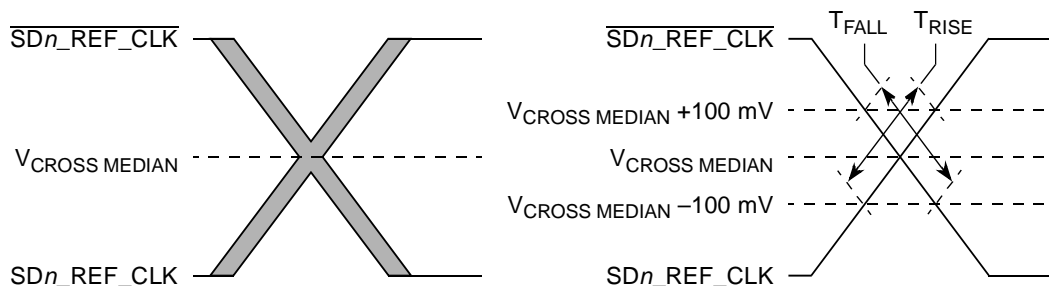

Figure 61. Single-Ended Measurement Points for Rise and Fall Time Matching
- 4 Matching applies to rising edge rate for SDn_REF_CLK and falling edge rate for $\overline{SDn_REF_CLK}$. It is measured using a 200 mV window centered on the median cross point where SDn_REF_CLK rising meets $\overline{SDn_REF_CLK}$ falling. The median cross point is used to calculate the voltage thresholds the oscilloscope is to use for the edge rate calculations. The Rise Edge Rate of SDn_REF_CLK should be compared to the Fall Edge Rate of $\overline{SDn_REF_CLK}$, the maximum allowed difference should not exceed 20% of the slowest edge rate. See Figure 61.